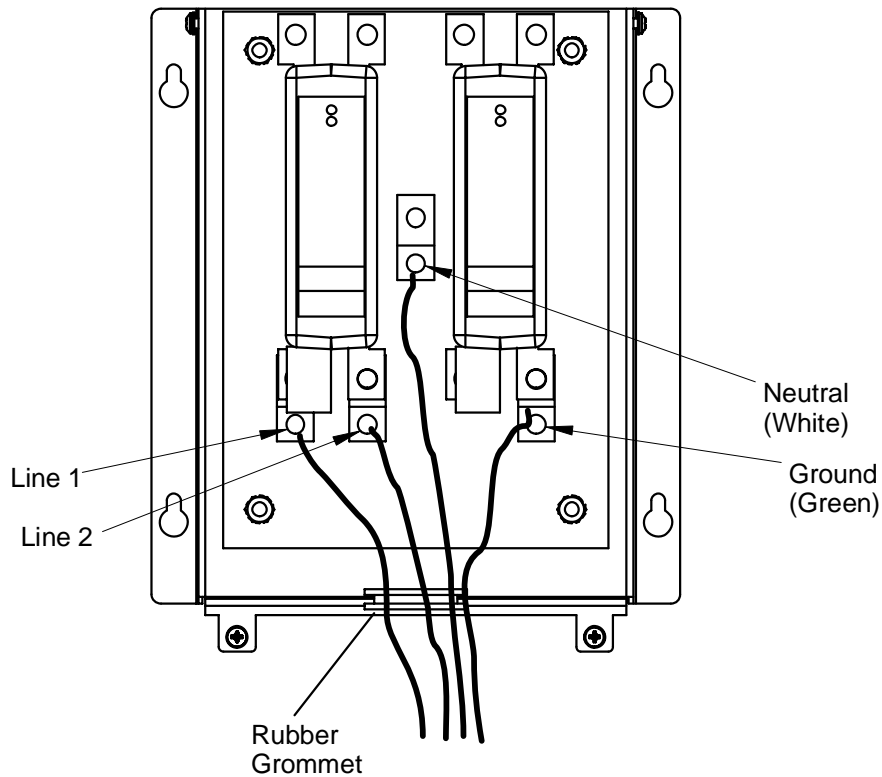

Figure 1. Surge Suppressor Wiring
Terminals marked N (neutral) and GND (ground) must be connected correctly to their respective terminals. Incorrect connections may result in damage or danger. See Figure 1 for proper connections.
3.	Connect the conductor and ground wires to the screw terminals as shown in Figure 1.